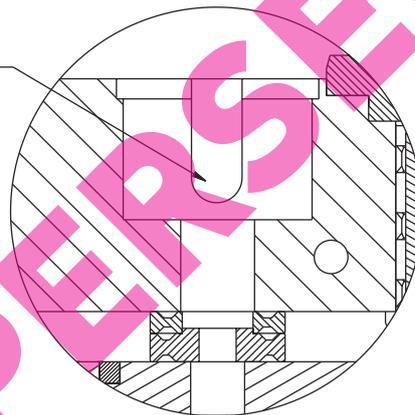

Fig 34.1
7. It may be necessary, in some cases, to machine the slot for feed lines right through the back plate to allow for ease of fitting from the back of the tool. Fig 34.1